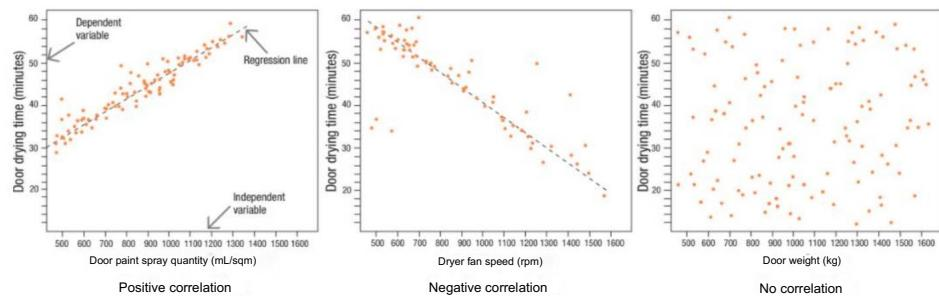

FIGURE 10.8 Scatter diagram
This diagram tracks two variables to determine their relationship to the quality of the results. Figure 10.8 shows three examples of scatter diagrams.
A regression line (or trend line) is calculated to show the correlation of variables, which can then be used for estimating and forecasting. Figure 10.8 depicts the possible resulting patterns: a proportional or positive correlation of paint quantity and door drying time, an inverse or negative correlation of dryer fan speed to drying time, and no correlation between door weight and drying time.
- **Scatter diagrams** A scatter diagram can be used to control quality by comparing actual results to what was anticipated, and to estimate and forecast future outcomes based on this comparison. For review, lookback to figure 10.8 and its accompanying description in the Manage Quality section.